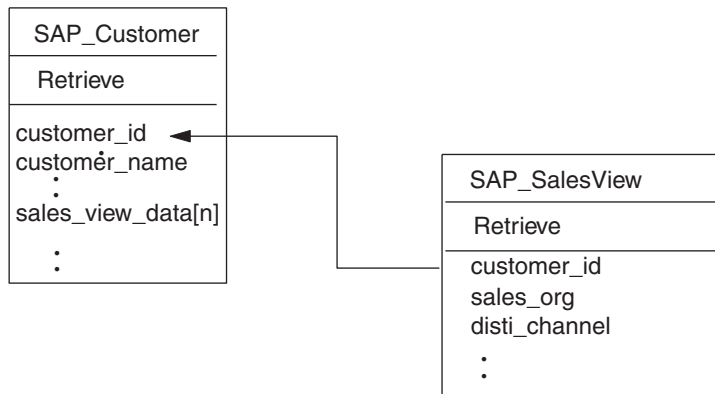

Figure 32. Example customer and sales view relationship
- In a multiple-cardinality relationship, the foreign key is determined by the primary key in the child referencing the **primary key** attribute in the parent. Each child has at least one simple attribute that contains the parent's primary key as a foreign key. The child has as many foreign-key attributes as the parent has primary-key attributes. Figure 32 provides an example.
Figure 32 provides an example of a different WebSphere business object developed to process customer objects in SAP. This example SAP\_Customer has a multiple-cardinality relationship to the example sales view object that it contains (the sales\_view\_data[n] attribute has cardinality n). The primary key attribute (customer\_id) in the child business object references the primary key (customer\_id) in the parent business object.